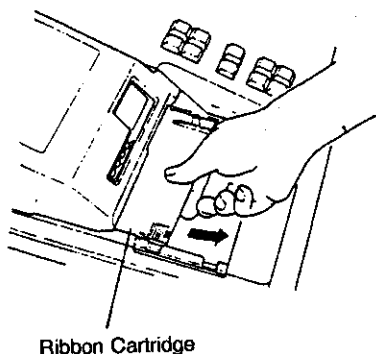

Fig. 2
2. Remove the old Ribbon Cartridge by pulling it toward you (Fig. 2).